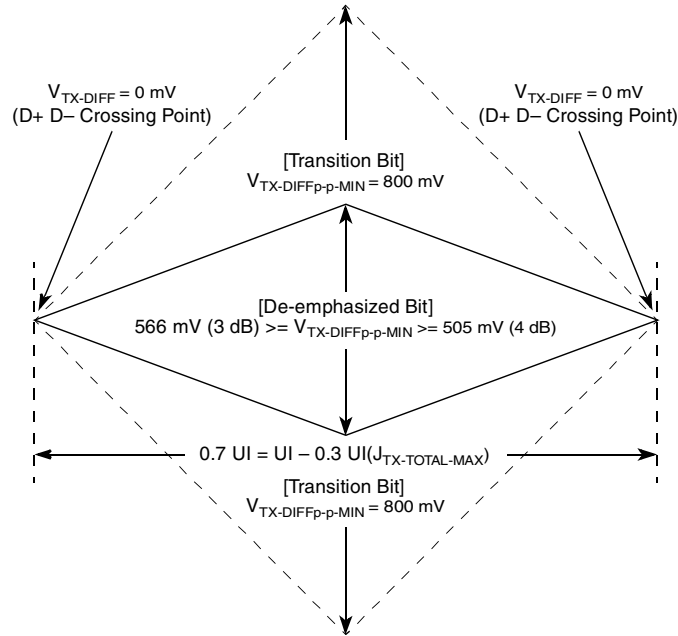
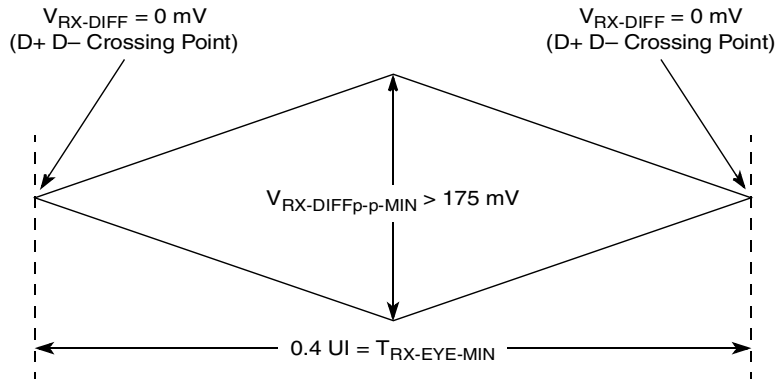
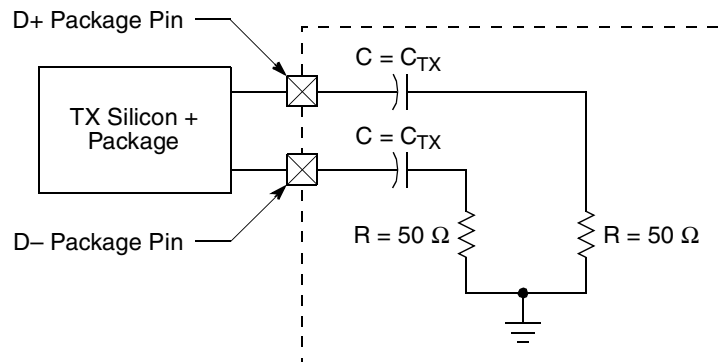

Figure 46. Minimum Transmitter Timing and Voltage Output Compliance Specifications
Figure 47. Minimum Receiver Eye Timing and Voltage Compliance Specification
Figure 48. Compliance Test/Measurement Load
2. Specified at the measurement point into a timing and voltage compliance test load as shown in Figure 48 and measured over any 250 consecutive Tx UIs. (Also refer to the transmitter compliance eye diagram shown in Figure 46.)
4. The transmitter input impedance will result in a differential return loss greater than or equal to 12 dB and a common mode return loss greater than or equal to 6 dB over a frequency range of 50 MHz to 1.25 GHz. This input impedance requirement applies to all valid input levels. The reference impedance for return loss measurements is 50 Ω to ground for both the D+ and D– line (that is, as measured by a vector network analyzer with 50- Ω probes, see Figure 48). Note that the series capacitors, C_{TX} , is optional for the return loss measurement.
5. Measured between 20%–80% at transmitter package pins into a test load as shown in Figure 48 for both V_{TX-D+} and V_{TX-D-} .
The Tx eye diagram in Figure 46 is specified using the passive compliance/test measurement load (see Figure 48) in place of any real PCI Express interconnect + Rx component. There are two eye diagrams that must be met for the transmitter. Both diagrams must be aligned in time using the jitter median to locate the center of the eye diagram. The different eye diagrams differ in voltage depending on whether it is a transition bit or a de-emphasized bit. The exact reduced voltage level of the de-emphasized bit is always relative to the transition bit.
2. Specified at the measurement point and measured over any 250 consecutive UIs. The test load in Figure 48 should be used as the Rx device when taking measurements (also refer to the receiver compliance eye diagram shown in Figure 47). If the clocks to the Rx and Tx are not derived from the same reference clock, the Tx UI recovered from 3500 consecutive UI must be used as a reference for the eye diagram.
4. The receiver input impedance will result in a differential return loss greater than or equal to 10 dB with the D+ line biased to 300 mV and the D– line biased to –300 mV and a common mode return loss greater than or equal to 6 dB (no bias required) over a frequency range of 50 MHz to 1.25 GHz. This input impedance requirement applies to all valid input levels. The reference impedance for return loss measurements for is 50 Ω to ground for both the D+ and D– line (that is, as measured by a vector network analyzer with 50- Ω probes, see Figure 48). Note that the series capacitors, C_{TX} , is optional for the return loss measurement.
The Rx eye diagram in Figure 47 is specified using the passive compliance/test measurement load (see Figure 48) in place of any real PCI Express Rx component. In general, the minimum receiver eye diagram measured with the compliance/test measurement load (see Figure 48) is larger than the minimum receiver eye diagram measured over a range of systems at the input receiver of any real PCI Express component. The degraded eye diagram at the input receiver is due to traces internal to the package as well as silicon parasitic characteristics that cause the real PCI Express component to vary in impedance from the
compliance/test measurement load. The input receiver eye diagram is implementation specific and is not specified. Rx component designer should provide additional margin to adequately compensate for the degraded minimum receiver eye diagram (shown in Figure 47) expected at the input receiver based on an adequate combination of system simulations and the return loss measured looking into the Rx package and silicon. The Rx eye diagram must be aligned in time using the jitter median to locate the center of the eye diagram.
The reference impedance for return loss measurements is 50 Ω to ground for both the D+ and D− line (that is, as measured by a Vector Network Analyzer with 50 Ω probes—see Figure 48). Note that the series capacitors, C_{PEACCTX}, are optional for the return loss measurement.
The AC timing and voltage parameters must be verified at the measurement point, as specified within 0.2 inches of the package pins, into a test/measurement load shown in Figure 48.